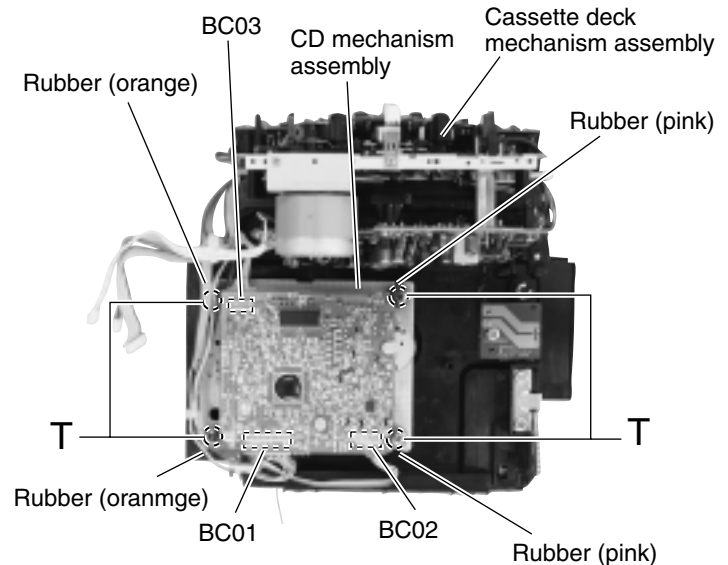

Fig.21
■ Removing the CD mechanism assembly (See Fig. 21.)